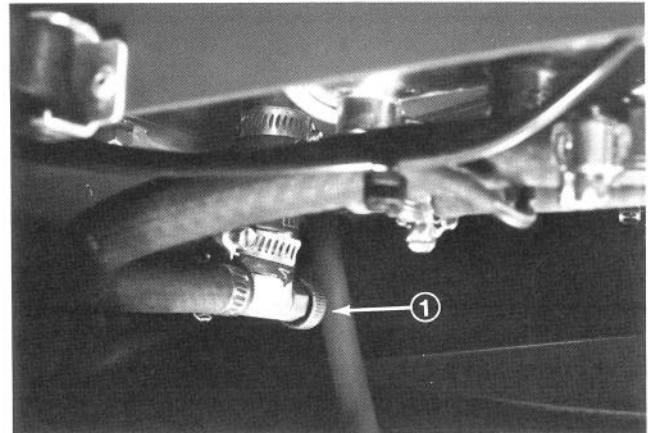

Figure 36
**Note:** A fuel shut-off valve is located on the underside of the fuel tank (Fig. 36).